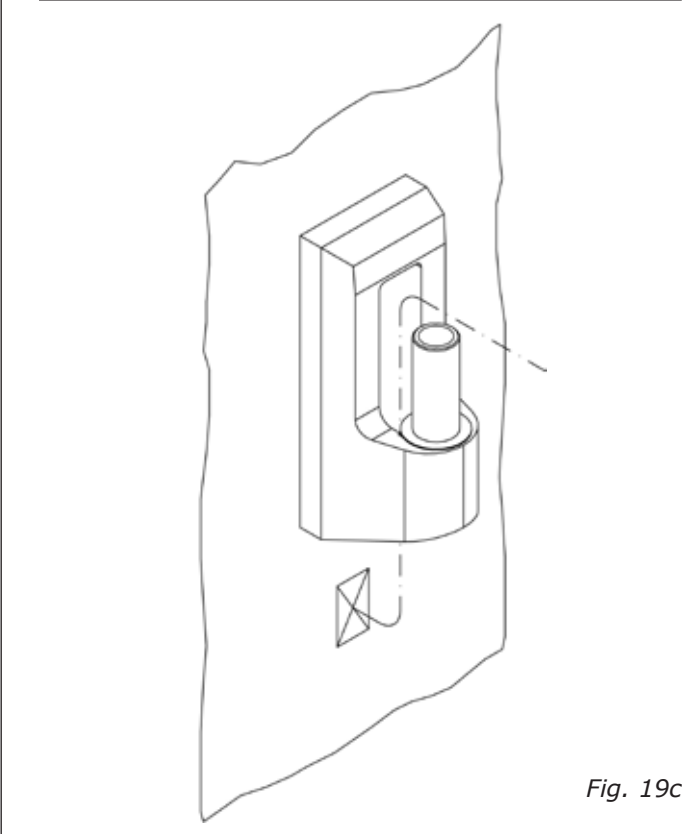

Fig. 19c
- 8.2.1 The wall-mounted arm is equipped with a three way connector. For electrical connections we recommend the installation of a wall-socket next to the wall mount bracket. (Fig. 19c)